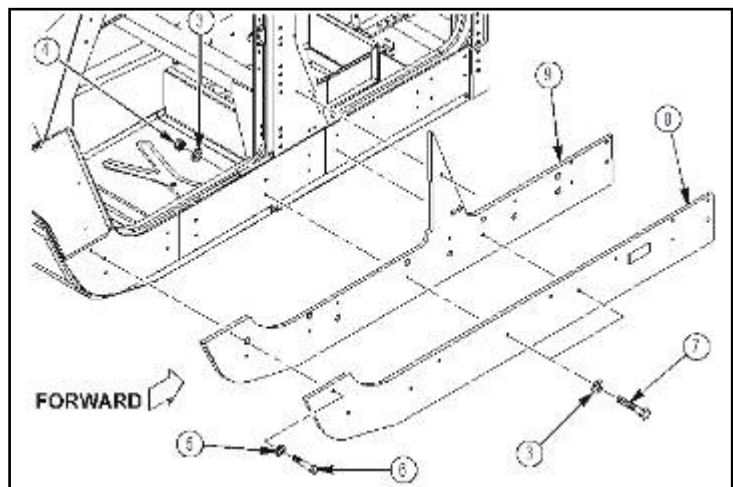

Figure 31b
capscrews (7), four 4397005-014 washers (3), and two 4397064-006 locknuts (4) as shown in figure 31b. Do not tighten locknuts (4) at this time.
5. Apply 8030-01-025-1692 sealing compound to threads of one 4397000-016 capscrew (6). Refer to figure 31b.
6. Install 4397000-016 capscrew (6) and 4397005-010 washer (5) as shown in figure 31b. Do not tighten capscrew (6) at this time.
21. Tighten two locknuts (4) to 37 lb-ft (50.2 N·m), and one capscrew (6) to 6 lb-ft (8.1 N·m). Refer to figure 31b.